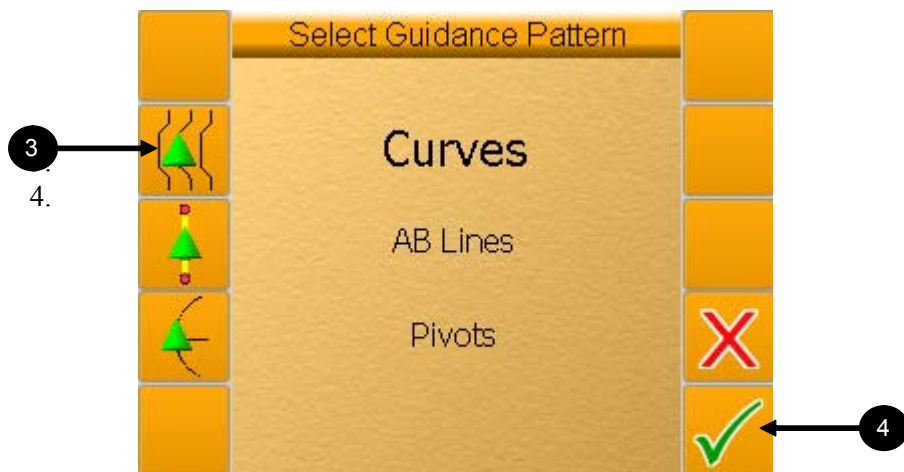

Figure 10-2. Select Curves Guidance pattern
5. Select  (figure 10-2) to select Curves (Contour) guidance pattern.
6. Select  (figure 10-2) to confirm your selection.